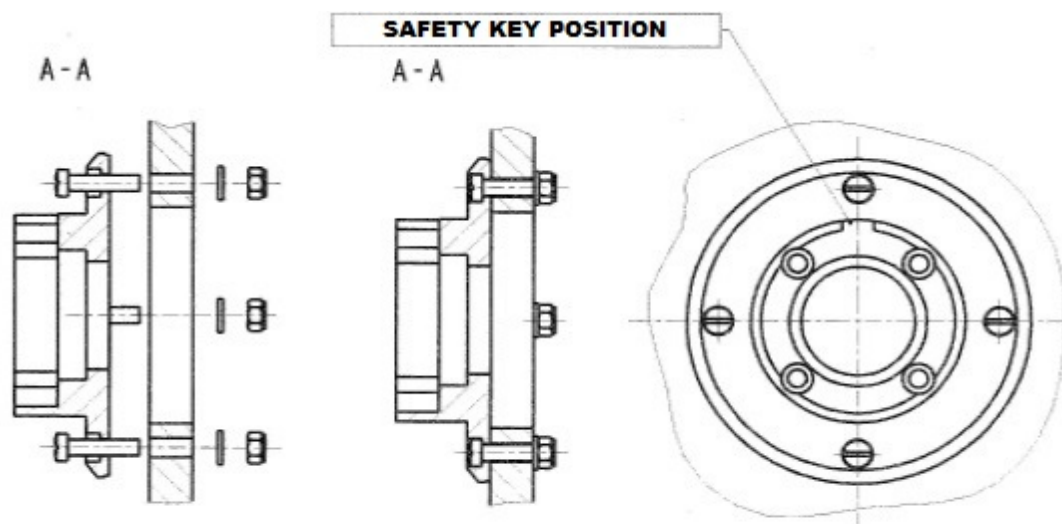

FIG. 1
2. Mount the fixing flange **(1)** (see **Fig.1** and **Fig.2**), using N°4 M6x25 screws **(2)**, N°4 washers **(4)** and N°4 M6 self-locking nuts **(3)**. Lend pay attention to the position of the safety key which must be as shown in **Fig.1**.